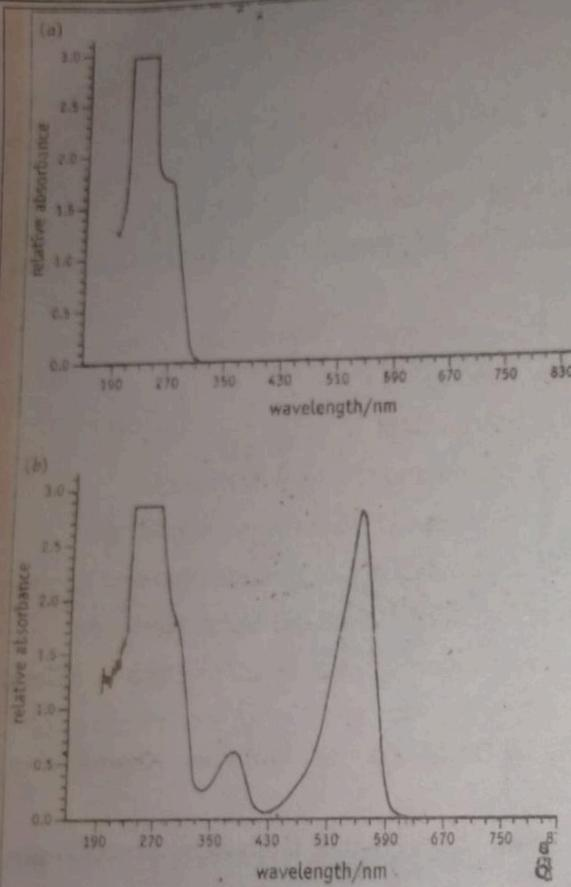

Figure 24.16: The visible/ultraviolet spectrum of phenolphthalein (a) at pH 6, (b) at pH 10.
3. Phenolphthalein is an organic chemical, molecular formula $C_{20}H_{14}O_3$. Figure 24.16 (a) shows the visible / ultraviolet absorption spectrum of phenolphthalein at pH 6. Figure 24.16 (b) shows the spectrum of the same chemical at pH 10. Table 24.3 gives the approximate wavelengths of visible radiation of different colours.